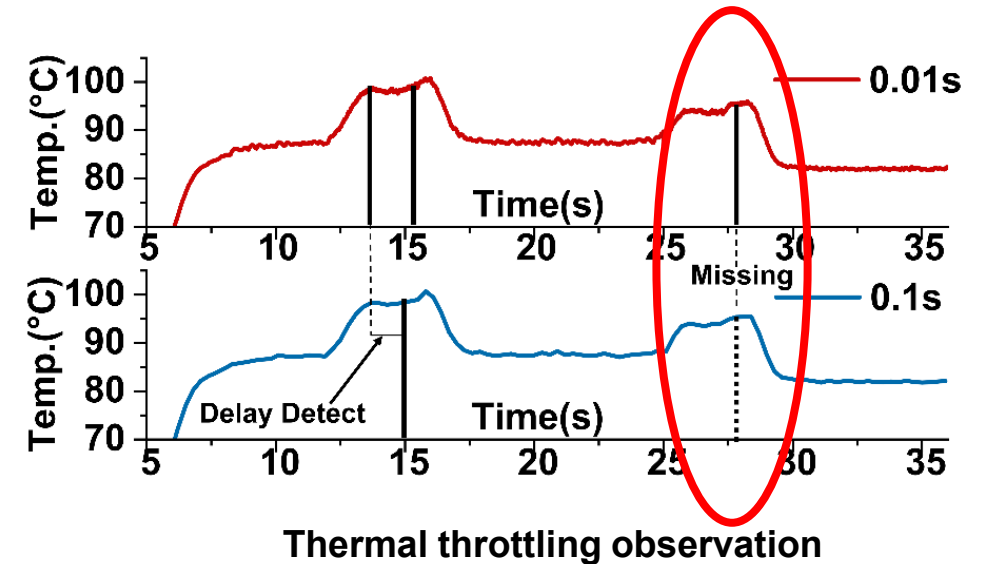

Fig. 2
- Fig. 2 shows temperature of an AI workload (a training trace of a diffusion model) as a function of time for H100+Novec-7100